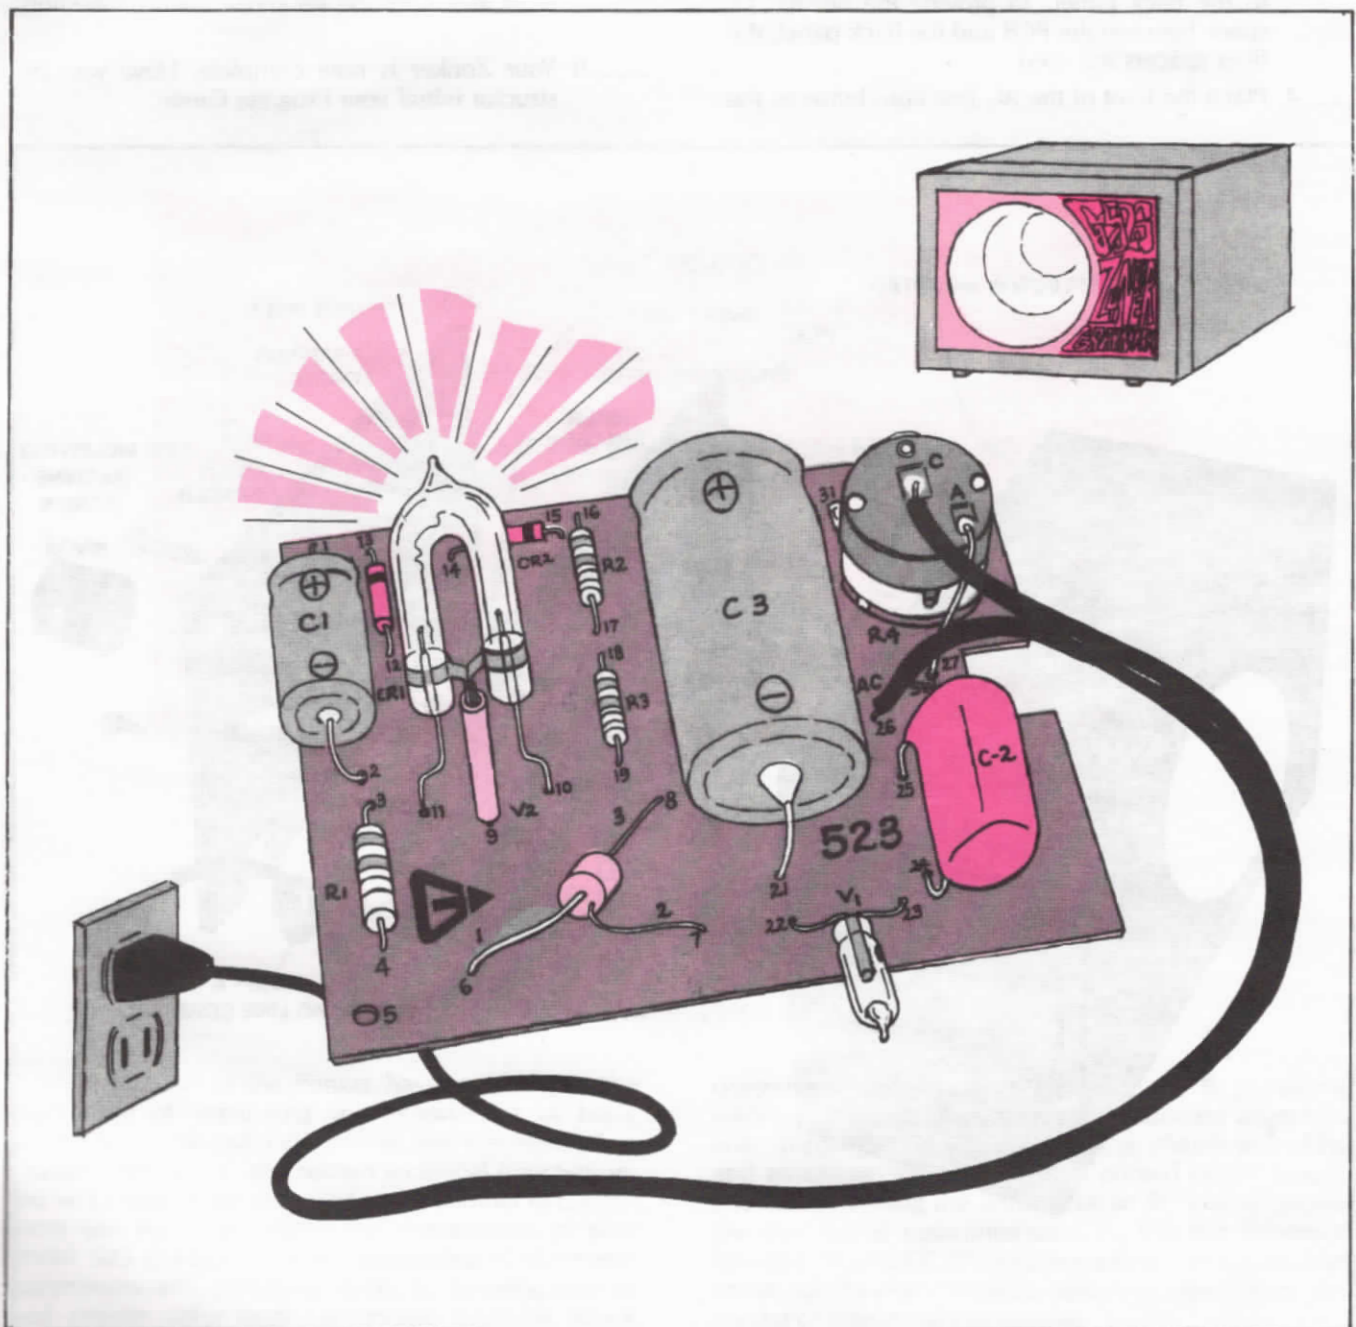

FIG. 44
- c. Connect one line cord lead to switch lug "C" on back of potentiometer R4. (Refer to Figure 44.)
- 13. Cut a 2-inch length of bus wire. Connect one end of this wire to switch lug "A" on back of potentiometer R4. Insert the other end through hole 27 marked "SW" on the PCB. (Refer to Figure 44.)